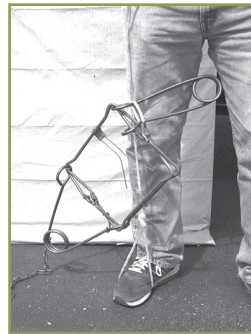

Figure SKF5c. Step 3
- 3) Place your foot in the looped end of the rope and pull the other end with your free hand or teeth until you can set the safety latch for that spring. (Figure SKF5c). You may need to do this to both springs to completely free yourself.